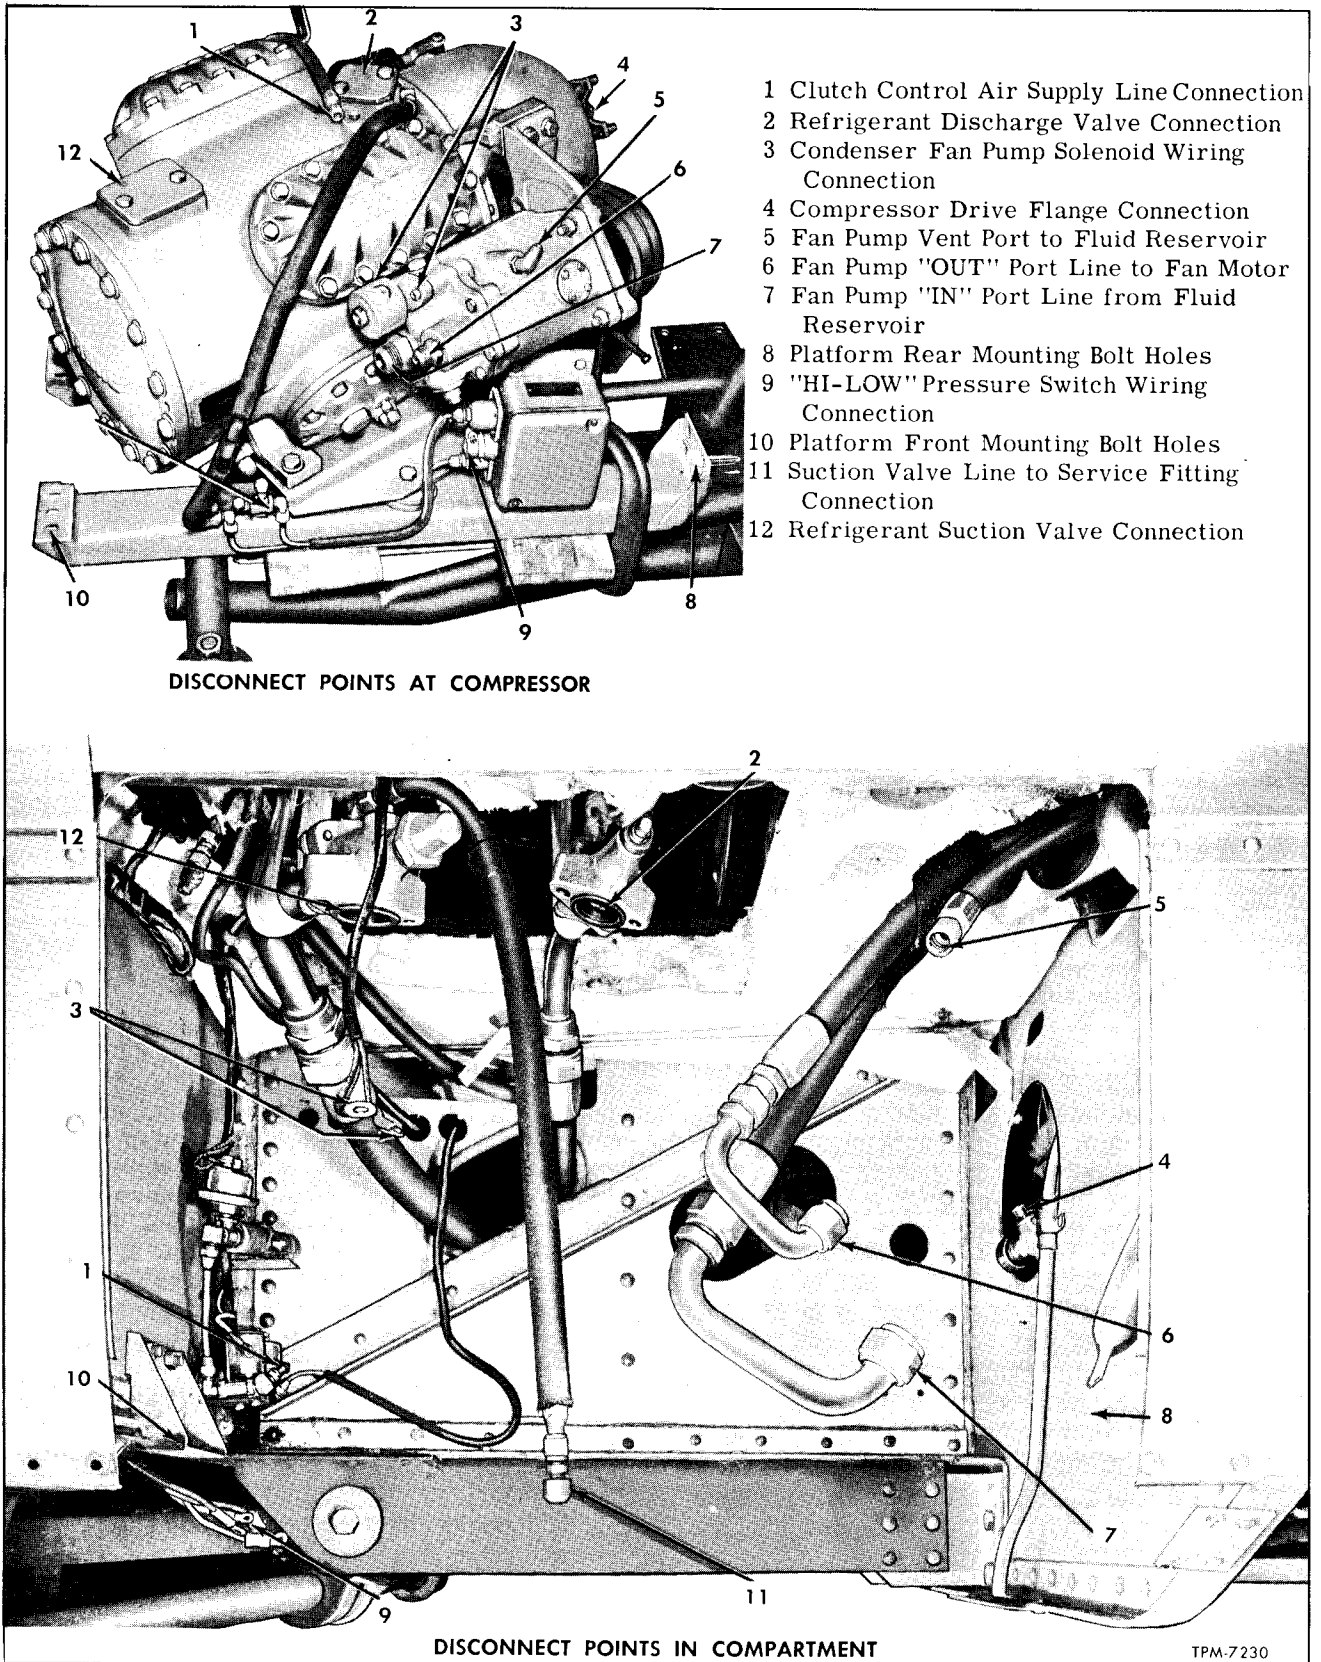
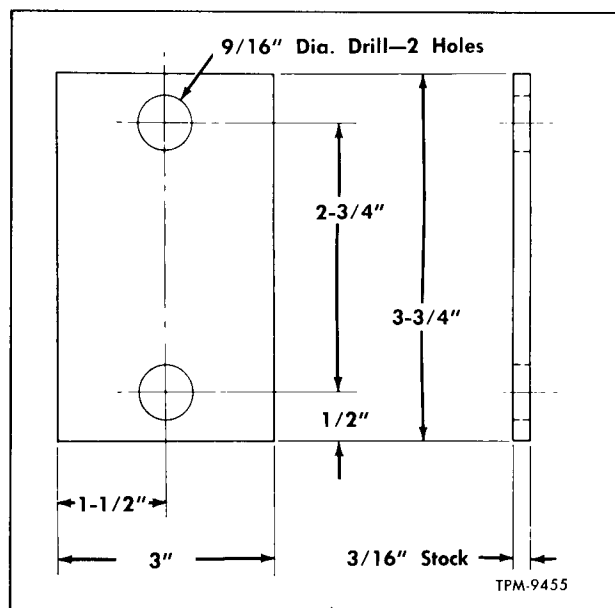

Figure 63—Compressor Disconnect Points (Typical)
Figure 64—Closure Plates (For Placing Over Compressor Valve Ports)
NOTE: Position rear wheels of coach on run-up blocks to provide sufficient clearance of compressor when removing. Key numbers in text refer to figure 63.
4. NOTE: The following procedures cover method whereby the refrigerant lines with valves are disconnected from compressor. Close valves by turning stem clockwise, then remove bolts attaching valves to compressor. Raise and tie lines up out of the way. The compressor valve openings should be immediately covered with improvised blank flange plates and gaskets after removing the valves. This will retain some refrigerant in lines and compressor thus minimizing the entry of air and moisture. Figure 64 shows dimensions of closure plates which can be improvised locally.
5. Disconnect "HI-LO" pressure switch suction line (11) at suction valve test fitting. If "HI-LO" pressure switch is mounted on bulkhead, disconnect both lines at test gauge fittings. IMMEDIATELY SEAL ENDS OF ALL LINES AND CAP OPEN FITTINGS.
7. Remove bolts, nuts, and washers which attach ends of compressor platform to coach body. Carefully lower compressor from compartment. Figure 63 shows compressor disconnect points.
NOTE: Key numbers in text refer to figure 63.